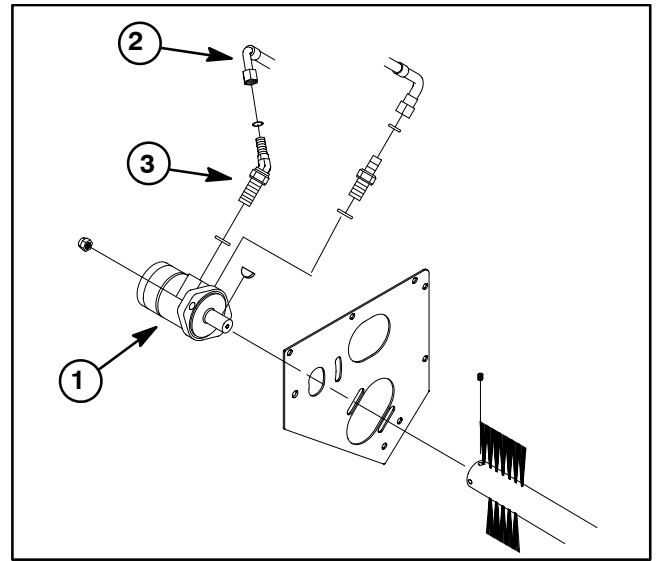

Figure 17
4. Disconnect hydraulic hose from 45° hydraulic fitting on the brush motor to allow hydraulic tester (flow meter) installation (Fig. 17).